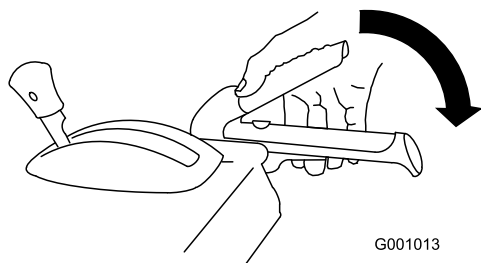

Figure 28
1. To engage the auger/ impeller drive, squeeze the right hand (auger/ impeller) lever to the handgrip (Figure 28).